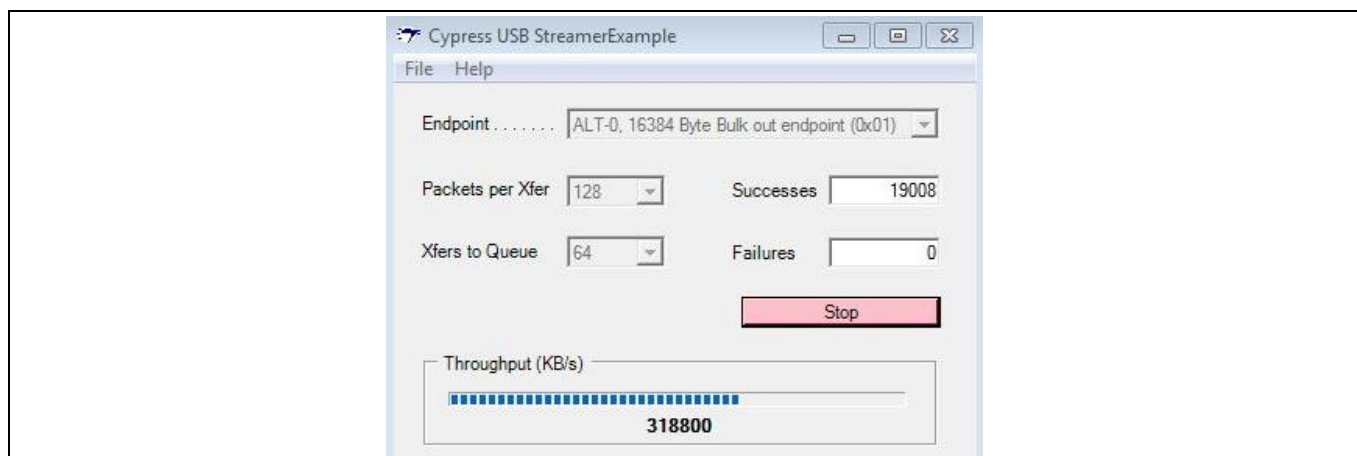

Figure 56 Streaming OUT performance in streamer utility
- In the stream OUT case, the FPGA is already in a state where it is waiting for FLAGC to equal 1. As soon as the data is available, the FPGA will start reading continuously from FX3's PIB_SOCKET_3. From the USB host, you can issue continuous Bulk OUT transfers. Select the BULK OUT endpoint in the streamer utility and click **Start**. The performance number is displayed. The performance shown in Figure 56 is observed on a Win7 64-bit PC with an Intel Z77 Express Chipset.